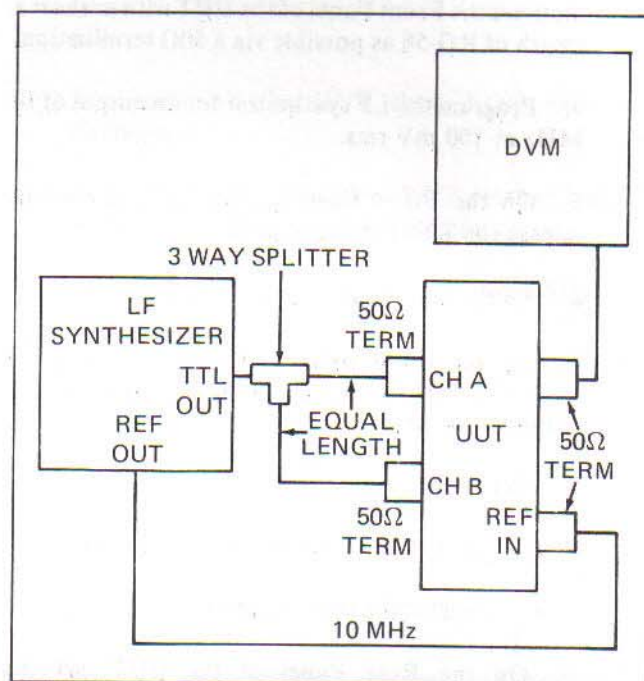

Figure 4-5. TIA A-B Check
3. Connect the equipment in the configuration shown in Figure 4-5.